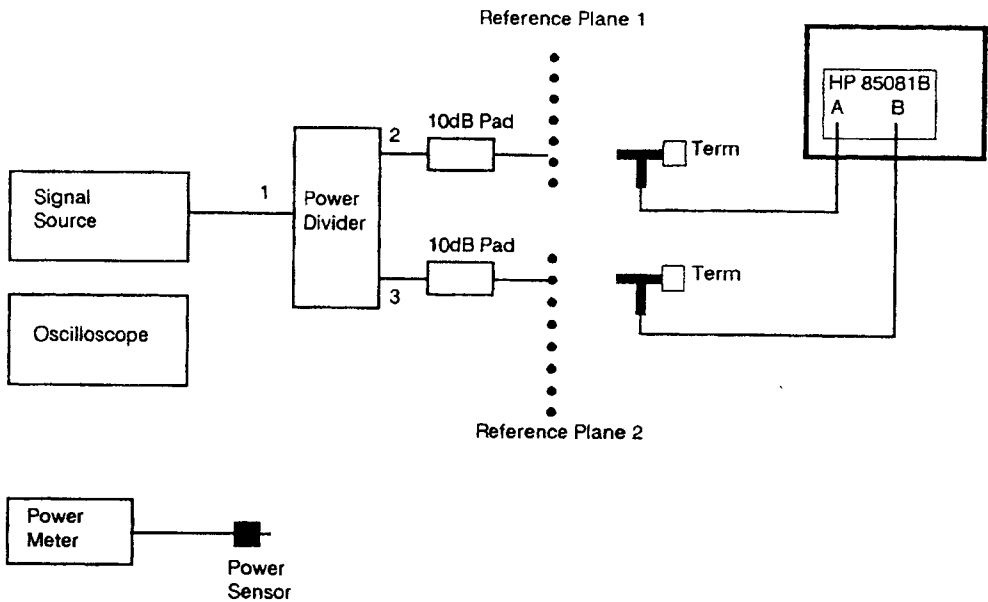

Figure 5-3. General Test Setup
- 1. Configure the equipment as shown in Figure 5-3, with the HP 85081B installed in either an HP 8508A or HP 70138A Vector Voltmeter mainframe.
1. Configure the equipment as shown in Figure 5-3. Separate the Channel A probe from the Channel A 50ohm Tee (being careful to observe proper static control procedures). Connect the Channel A probe to the oscilloscope channel 1 input using the probe-to-BNC adaptor (HP 10218A).